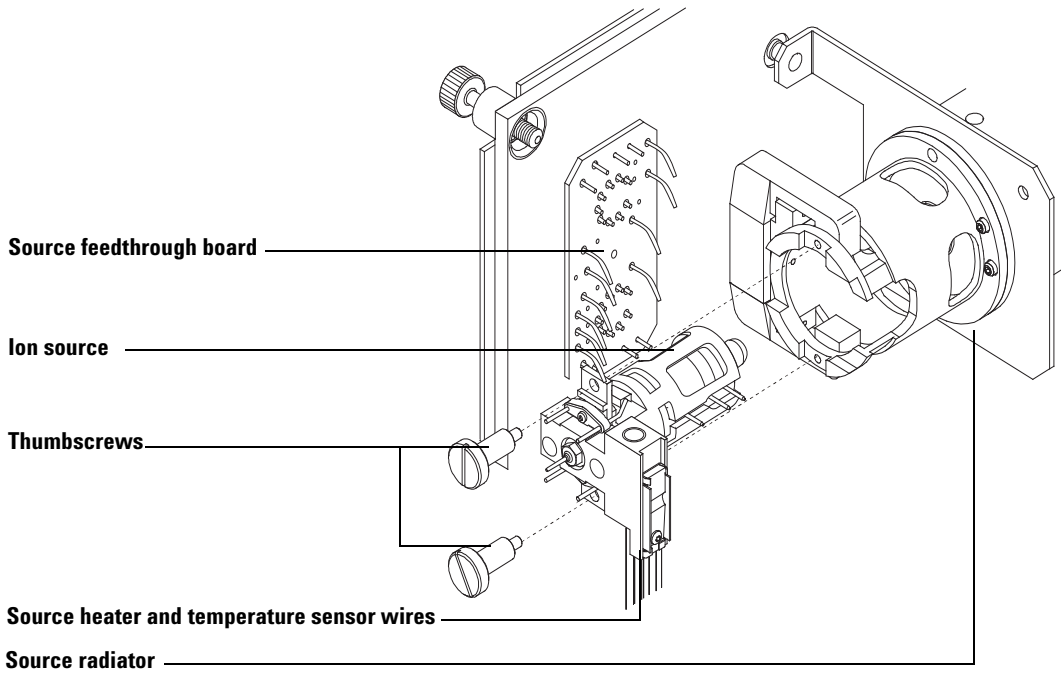

Figure 20 Removing the EI ion source
- 3 Disconnect the wires from the ion source. Do not bend the wires any more than necessary (Figure 20 and Table 15).
- 4 Trace the wires for the ion source heater and temperature sensor to the feedthrough board. Disconnect them there (Figure 20).